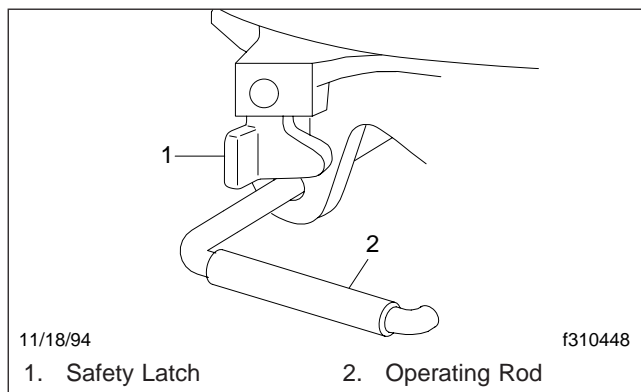

Fig. 10.14, Simplex Kingpin Locking Mechanism, Safety Latch (locked position)
During coupling, the kingpin contacts and rotates the jaw into the locked position. This action automatically moves the operating rod into the locked position. This securely locks the jaw around the kingpin. In the locked position the safety latch swings freely over the operating rod. See Fig. 10.14.
7. Make a visual check (even if equipped with the Touchloc air-operated system) for positive kingpin lockup. The trailer bed plate must be flush on the fifth wheel plate surface. When positive lockup has occurred, the fifth wheel operating rod will have moved inward to the locked position, and the safety latch will swing freely over the operating rod. See Fig. 10.14.